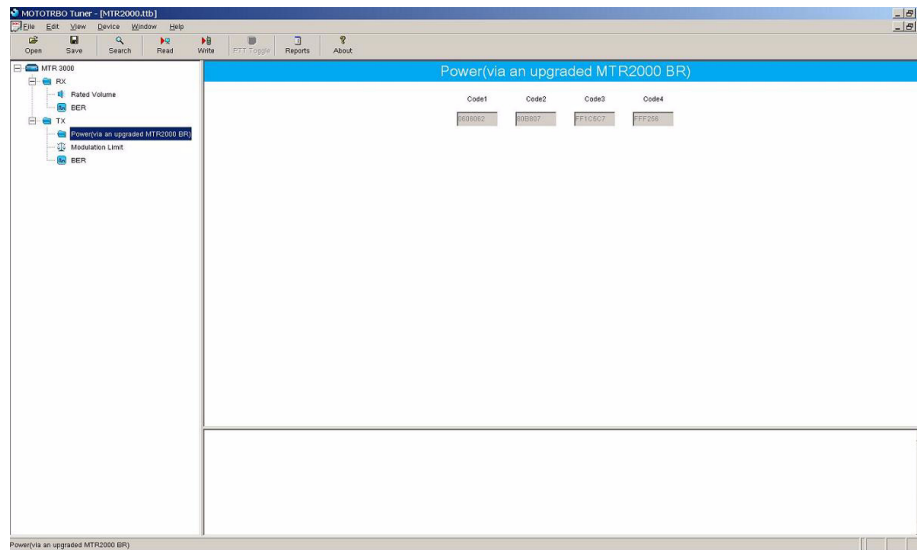

Figure 12-5. Tx Menu tree (Tuning Procedure)
3. Select "Power" under the Tx menu in the tree view (Refer to Figure 12-5).